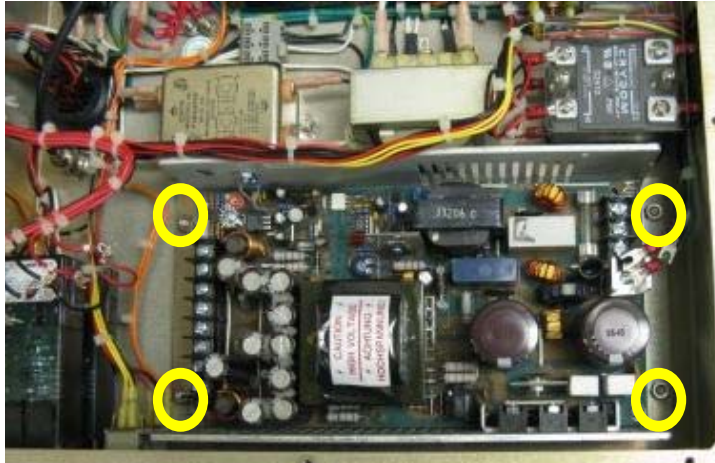

Figure 5
- 6) Using an 11/32 nut driver remove the (4) nuts that hold the Power Supply to the bracket inside the chassis, and lift out the Power Supply. Fig. 5